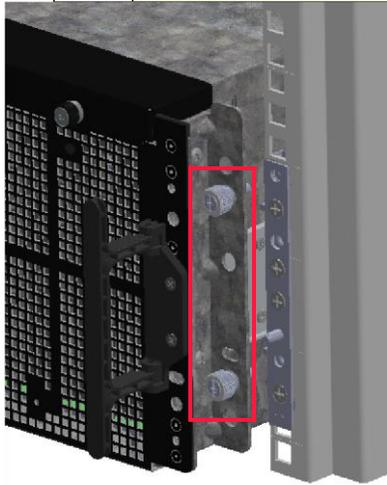

Figure 5.3 Rack thumbscrews
1. Loosen the two left and two right thumbscrews that secure the enclosure to the rack. The right two thumbscrews are shown in Figure 5.3 on page 61.